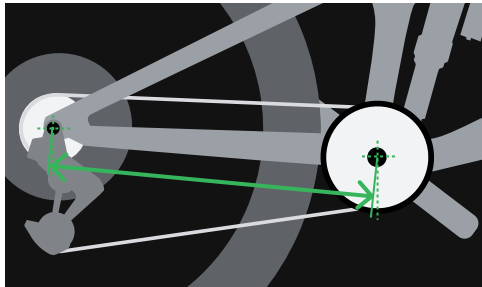

Figure 1
- 1 Measure the direct distance from the bottom bracket axis to the hub axis with the frame fully extended at 0% travel to determine the chainstay length (mm) (figure 1).